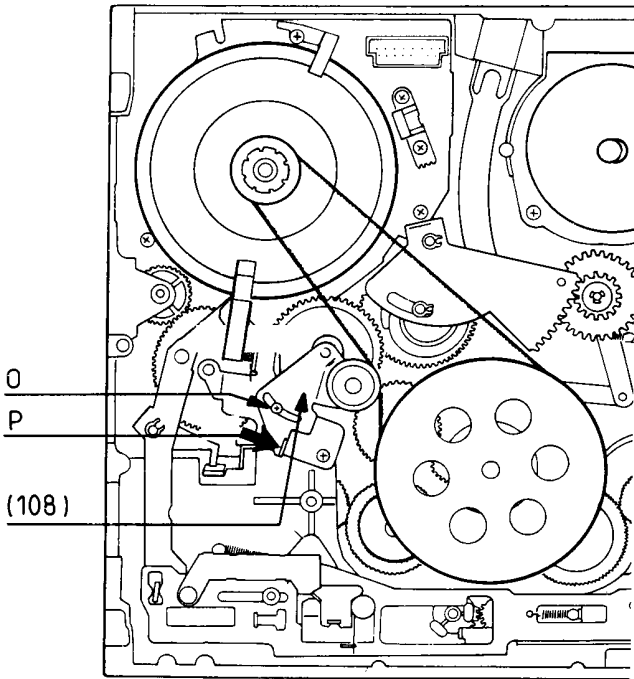

Fig. 14
- Schraube "O" lösen (Fig. 14).
- Kontaktor am Punkt "P" ansetzen und Spannrollenhebel (108) in Pfeilrichtung "P" drücken.
- Loosen the screw "O" (Fig. 14)
- Apply the tension gauge to point "P" and press the tension roller unit (108) in the direction of the arrow.